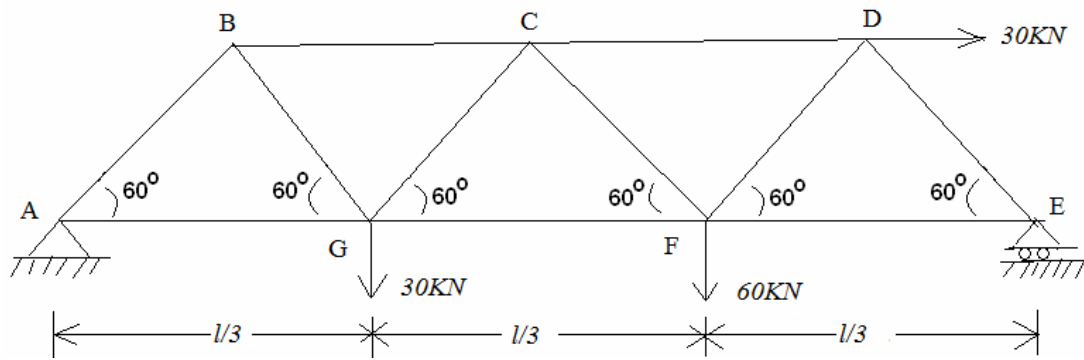

Fig.3
5. Calculate the forces induced in the members of the pin-jointed truss shown in Fig.3 by Method of Joints. [15]